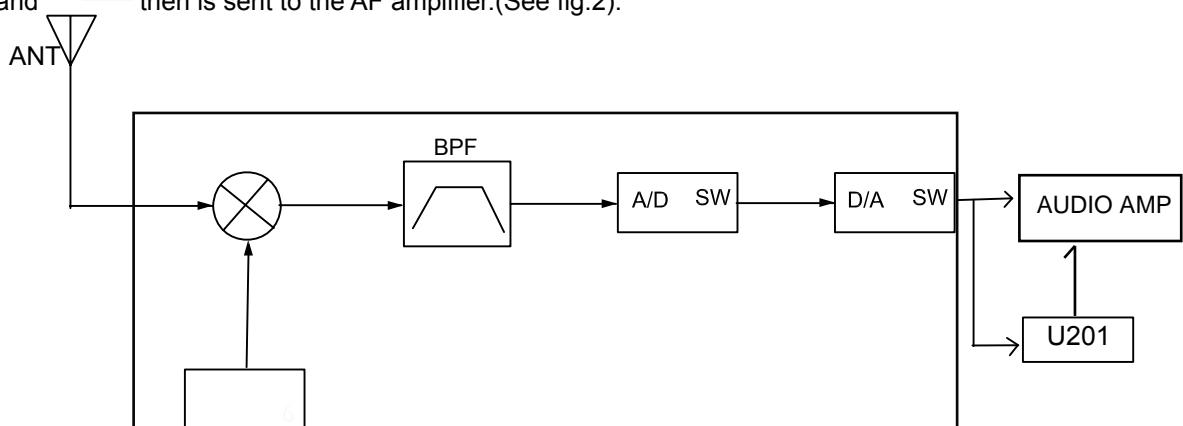

Fig .2
(Completed in RDA1846S) IC in RDA1846S can program to control frequency synthesizer to generate local oscillation and receiving signal, and then mix frequency in image frequency interference suppression mixers to generate IF (intermediate frequency). (See fig.2)
2. DIGITAL channel: signal is sent to band-pass processor(U201) from RDA1846S to be decodeed and decompressed to convert to digital signal, and then is sent to the AF amplifier. (See fig.2).